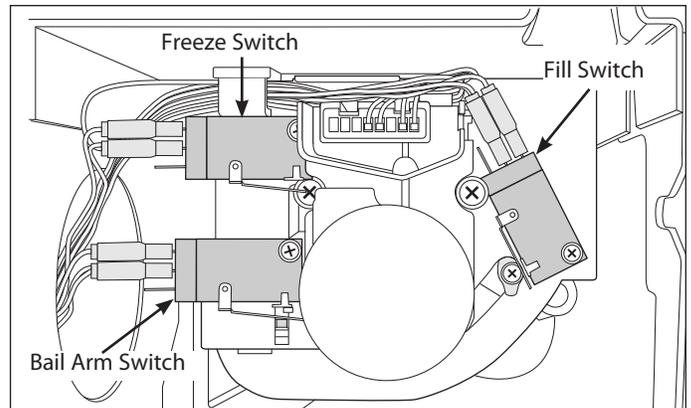

Figure 6-78.
3. Extract the single mounting screw. Remove the switch and replace with a new one. (See Figure 6-78)